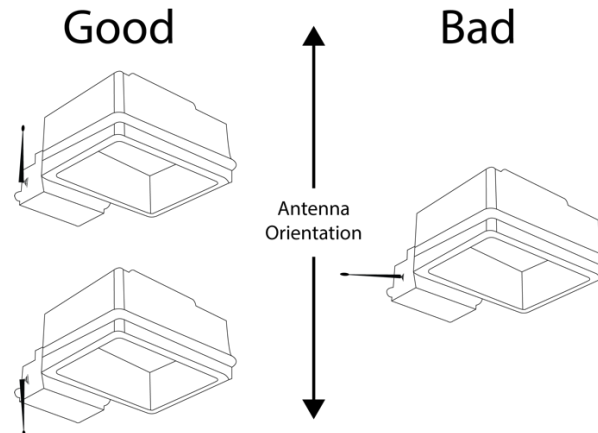

Figure 1 - Proper Antenna Installation
- When installing the CNV-SNAP-DD2 into an enclosure, consideration of the external antenna position and interference is required to provide the most optimum wireless signal strength. Prior to permanently mounting it, make sure the antenna points directly upward or downward and is free of any metal objects within 12 in. of the antenna (Figure 1).